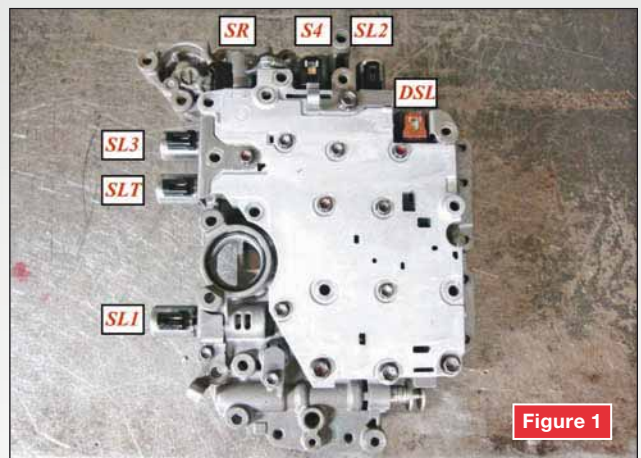

Figure 1
**O**n occasions, solenoids that appear to be similar may be mistaken as identical. Toyota's U150 series transmission is a good example of this (Figure 1). This valve body contains seven solenoids of which four look very similar (Figure 2).